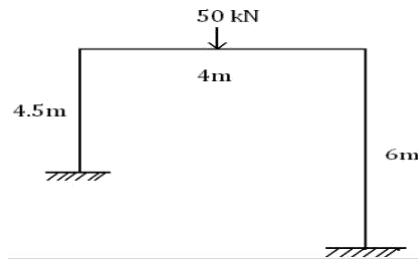

Figure 2
7. Explain fully plastic moment and determine the fully plastic moment required for the frame shown in Figure 2 , if all the members have the same value of M_p . [12M]